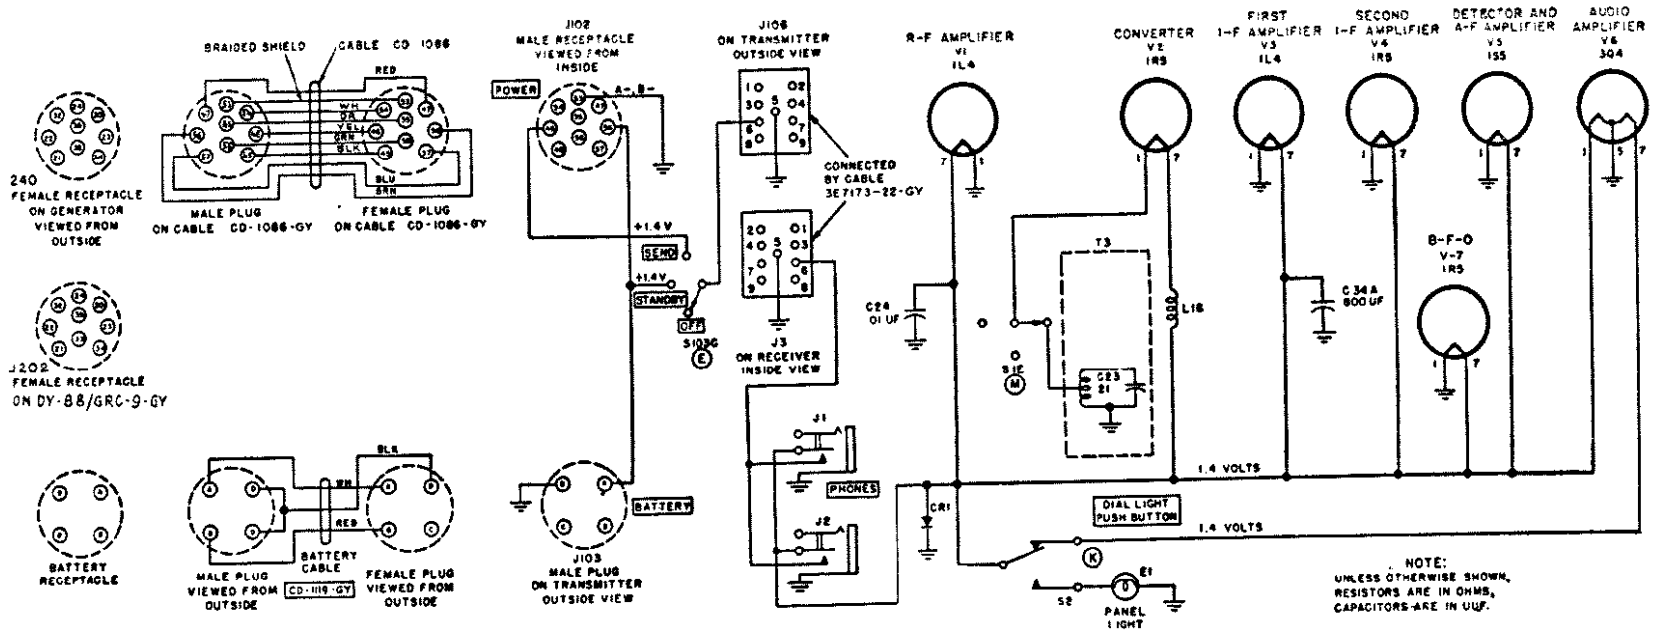

Figure 64. Receiver filament supply circuits.
87. Receiver Filament Voltage Supply (fig. 64)